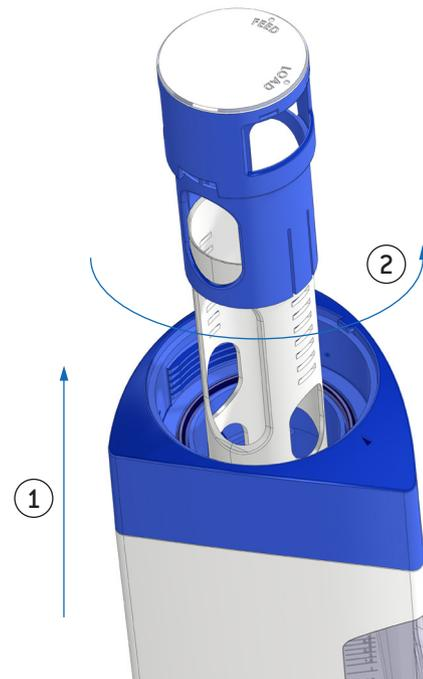

Figure 15a
2. Remove pressure cap. See figure 15a & 15b.